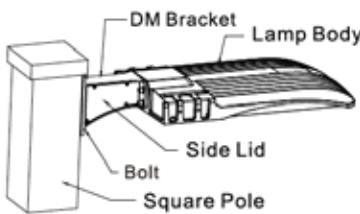

Figure 3-2
- Fix the direct bracket to the square pole with bolt. Connect the power cable to the pole cable, make sure good protection on the wire connection, and put the wire in the direct bracket; close the side lid and tighten it, (Figure 3-2) then finish in installation.